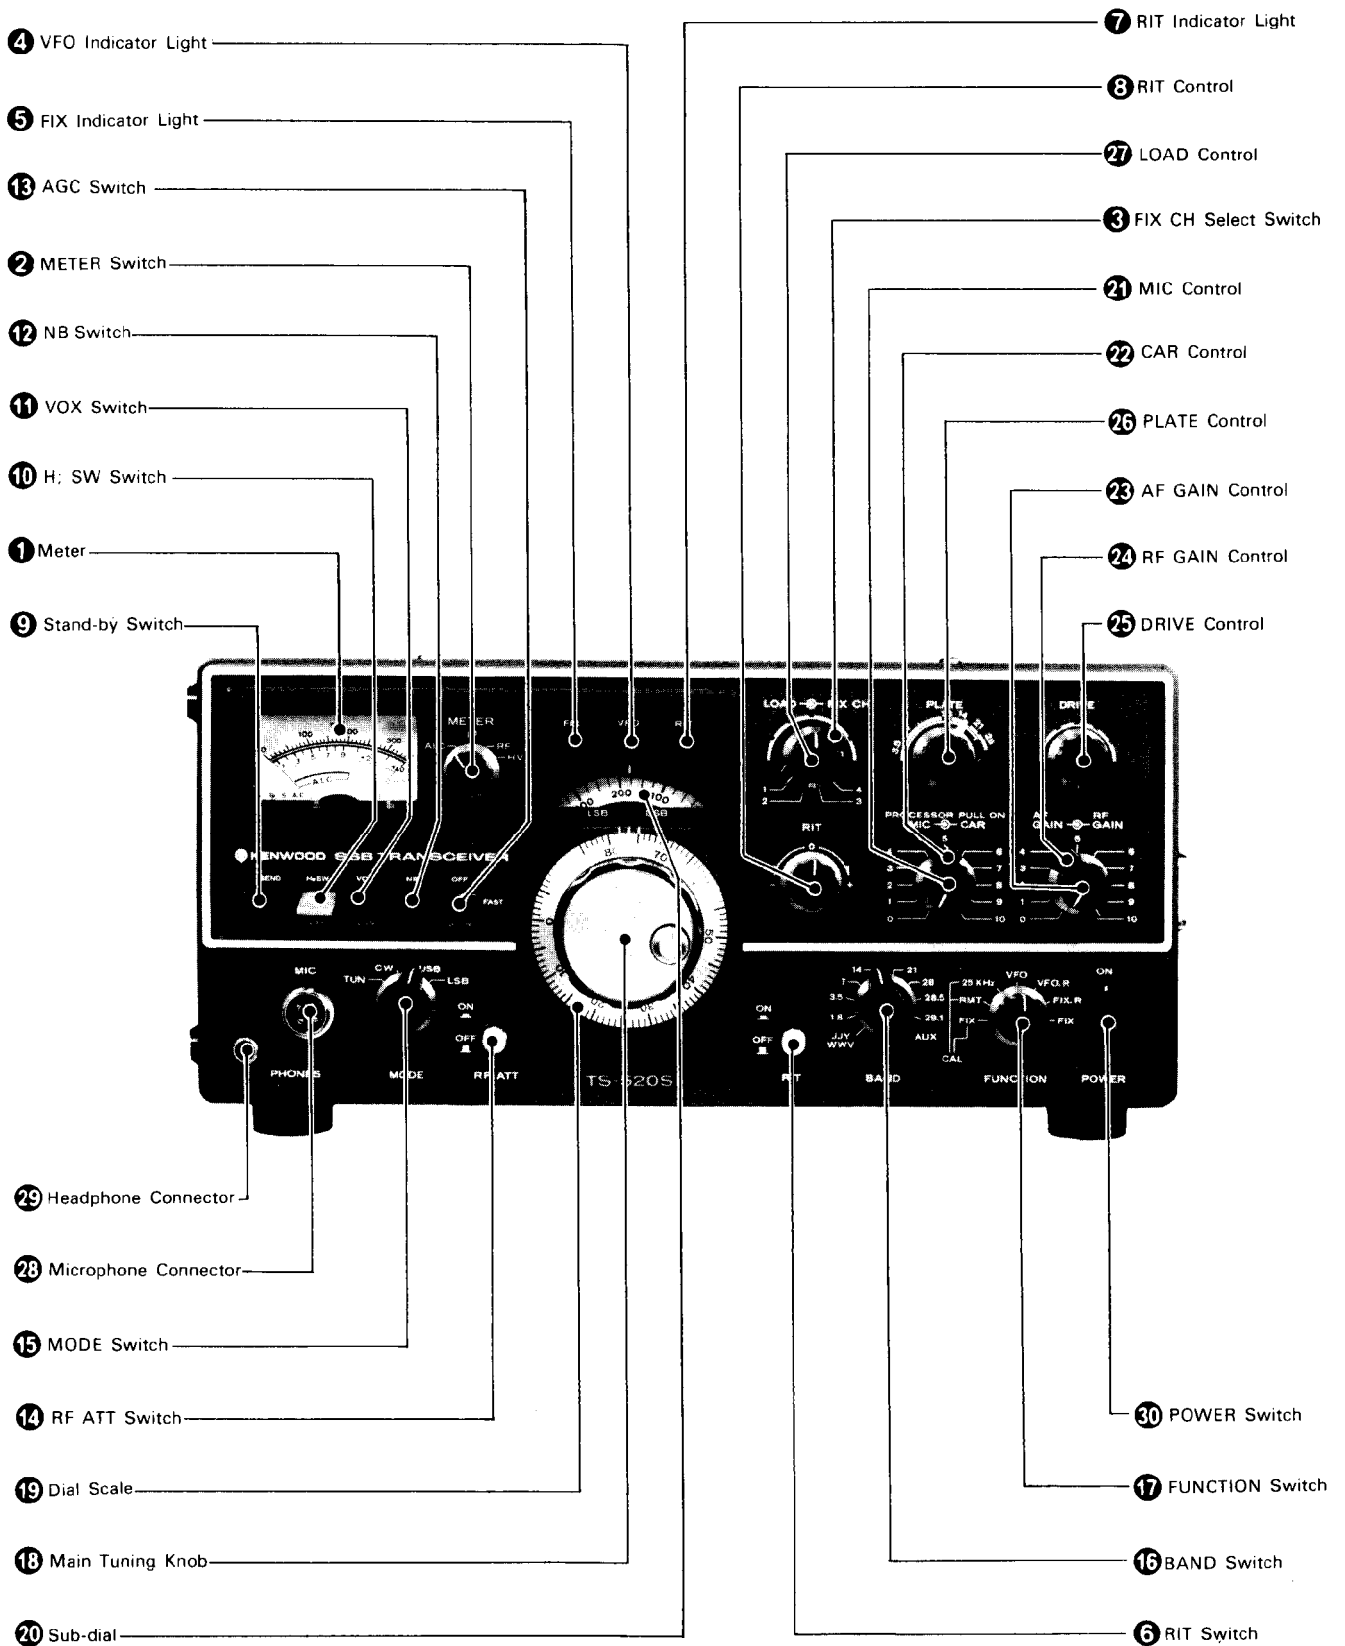

Fig. 5 Front Panel Controls
3.1 FRONT PANEL CONTROLS (See Figure 5)
■ METER (1 on Figure 5)
■ METER SWITCH (2 on Figure 5)
■ CH. (FIXED CHANNEL) SELECT SWITCH (3 on Figure 5)
■ VFO INDICATOR LIGHT (4 on Figure 5)
■ FIX (FIXED CHANNEL OPERATION) INDICATOR LIGHT (5 on Figure 5)
■ RIT SWITCH (6 on Figure 5)
■ RIT INDICATOR (7 on Figure 5)
■ RIT CONTROL (8 on Figure 5)
■ STAND-BY SWITCH (9 on Figure 5)
■ H. SW (Heater) SWITCH (10 on Figure 5)
■ VOX SWITCH (11 on Figure 5)
■ **NB SWITCH** (Ⓔ on Figure 5)
■ **AGC SWITCH** (Ⓕ on Figure 5)
■ **RF ATT SWITCH** (Ⓖ on Figure 5)
■ **MODE SWITCH** (Ⓗ on Figure 5)
■ **BAND SWITCH** (Ⓘ on Figure 5)
■ **FUNCTION SWITCH** (Ⓣ on Figure 5)
■ **MAIN TUNING KNOB** (18 on Figure 5)
■ **DIAL SCALE** (19 on Figure 5)
■ **SUB-DIAL** (20 on Figure 5)
(21 on Figure 5)
■ **CAR CONTROL** (22 on Figure 5)
■ **AF GAIN CONTROL** (23 on Figure 5)
■ **RF GAIN CONTROL** (24 on Figure 5)
■ **DRIVE CONTROL** (25 on Figure 5)
■ **PLATE CONTROL** (26 on Figure 5)
■ **LOAD CONTROL** (27 on Figure 5)
■ **MIC CONNECTOR** (28 on Figure 5)
■ **PHONES JACK** (29 on Figure 5)